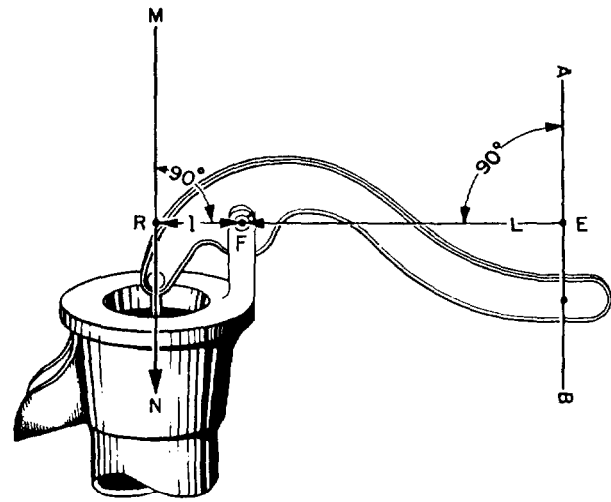

Figure 1-9.-A curved lever arm.
Look at figure 1-9. You may wonder how to measure the length of the effort arm, which is represented by the curved pump handle. You do not measure around the curve; you still use a straight-line distance. To determine the length of the effort arm, draw a straight line (AB) through the point where the effort is applied and in the direction that it is applied. From point E on this line, draw a second line (EF) that passes through the fulcrum and is perpendicular to line AB. The length of line EF is the actual length (L) of the effort arm.